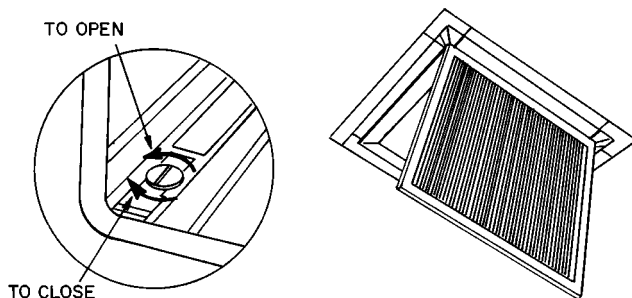

Fig. 15 — Intake Grille Slotted Screws
1. Open intake grille by turning screws as shown in Fig. 15.